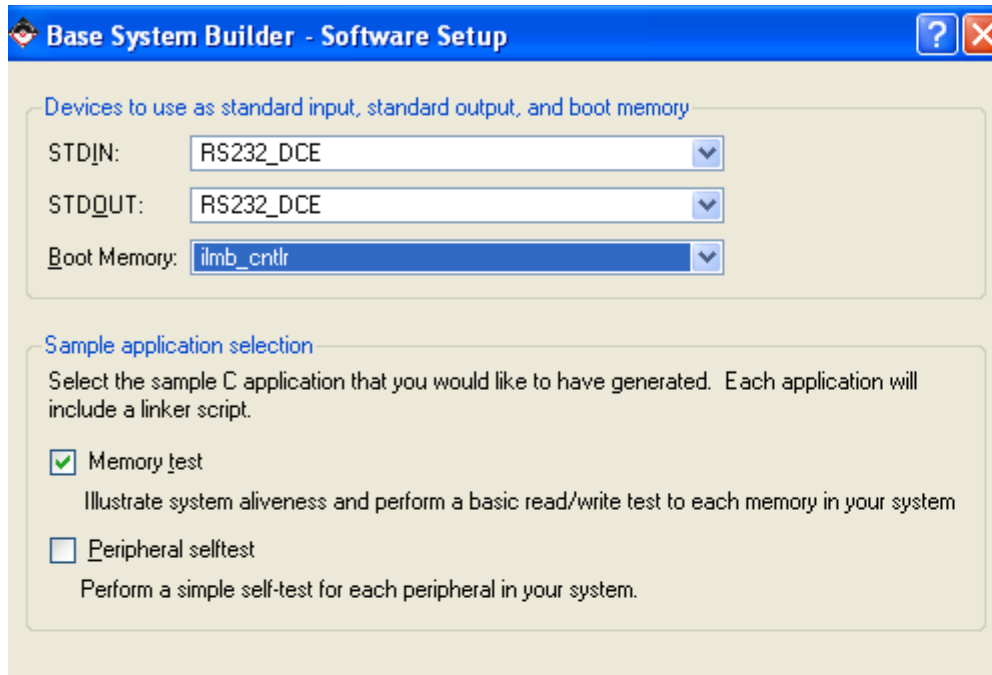

Figure 1-11. Software Setup Dialog Box
- 4 Unselect Peripheral selftest (**Figure 1-11**) and click **Next**.